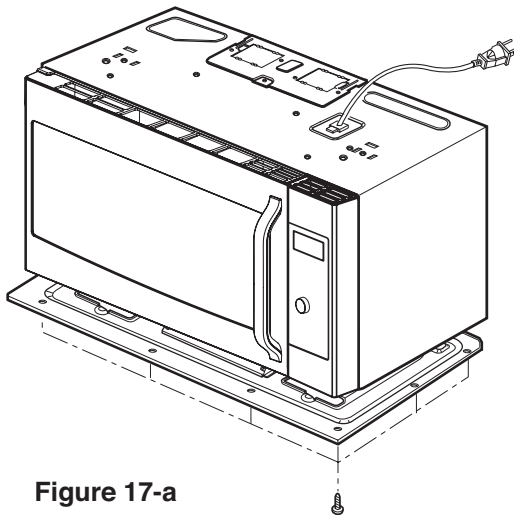
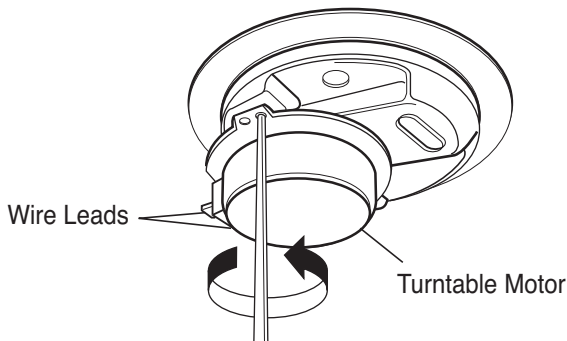

Figure 17-a
Figure 18-b
- (3) Remove the base plate by removing 7 screws securing it to the oven cavity. (Figure 17-a)
- (4) Disconnect the leadwire from the turntable motor terminals.
- (5) Remove the 2 screws securing the turntable motor to the oven cavity ASS'Y. (Figure 18-b)